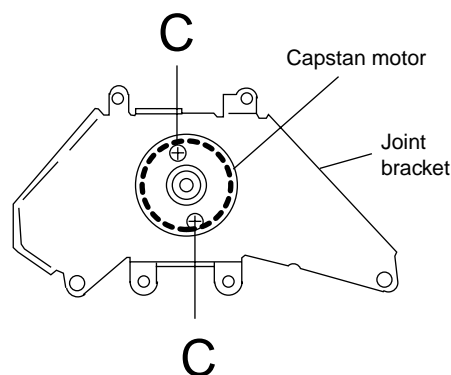

Fig. 8
■ Removing the Capstan Motor (See Fig. 8)